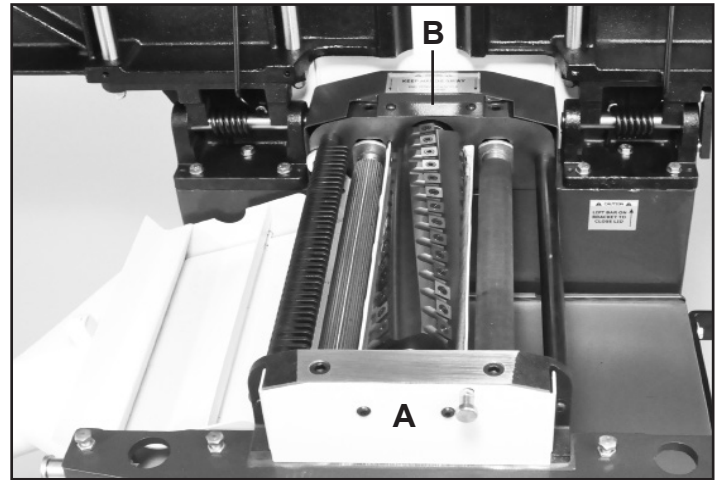

FIG. 27
3. With the jointer table up, the Front Guard (#53, A) and Rear Guard (#91, B) must be removed to access the bolts that will adjust the feed rollers' pressure. FIG. 27.